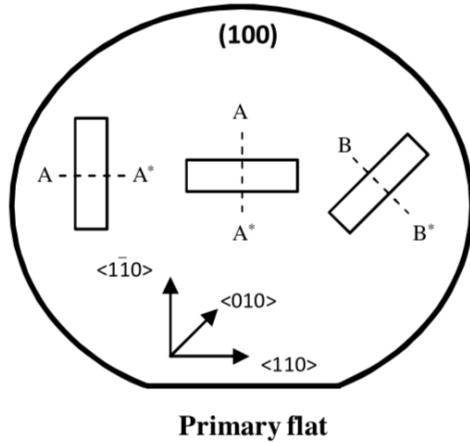

Figure 6 Orientation of the silicon crystal on the wafer used in this practical (reproduced from [11]).
- a. Explain why the cantilevers are in the corners of a square and explain why the orientation of the square with respect to the crystal planes of silicon is of importance; which crystal plane (Figure 6)?